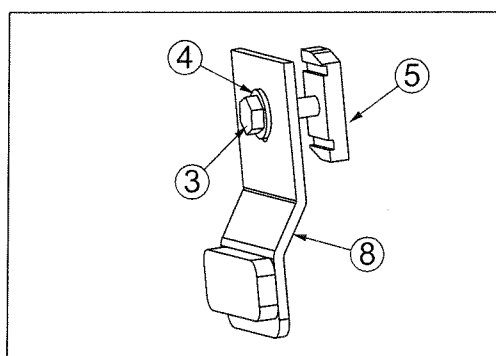

Fig. 6
8. Assemble the Bolt (#3), Washer (#4), and Anchor Plate (#5) to the Bump Bracket (#8) as shown in Fig. 6. Be sure the grips on the Anchor Plate (#5) face the Bump Bracket (#8). Only turn the Anchor Plate (#5) on a few turns.